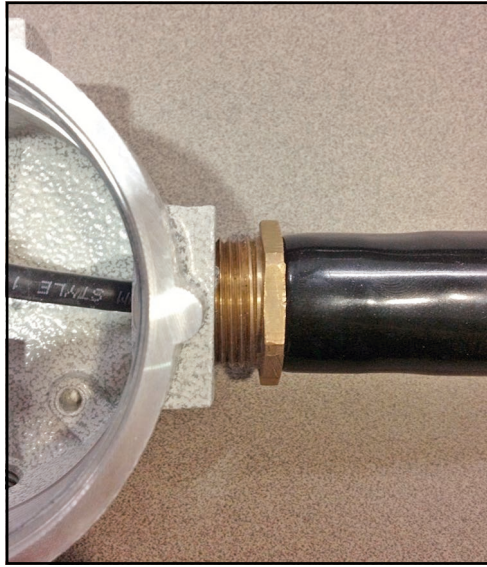

Figure 7: Torquing the Cable Gland
4. Torque the cable gland coming from the flowmeter electronics main housing into the other 3/4 in. NPT port in the junction box until there are at least 5 threads of engagement (see *Figure 7* below).